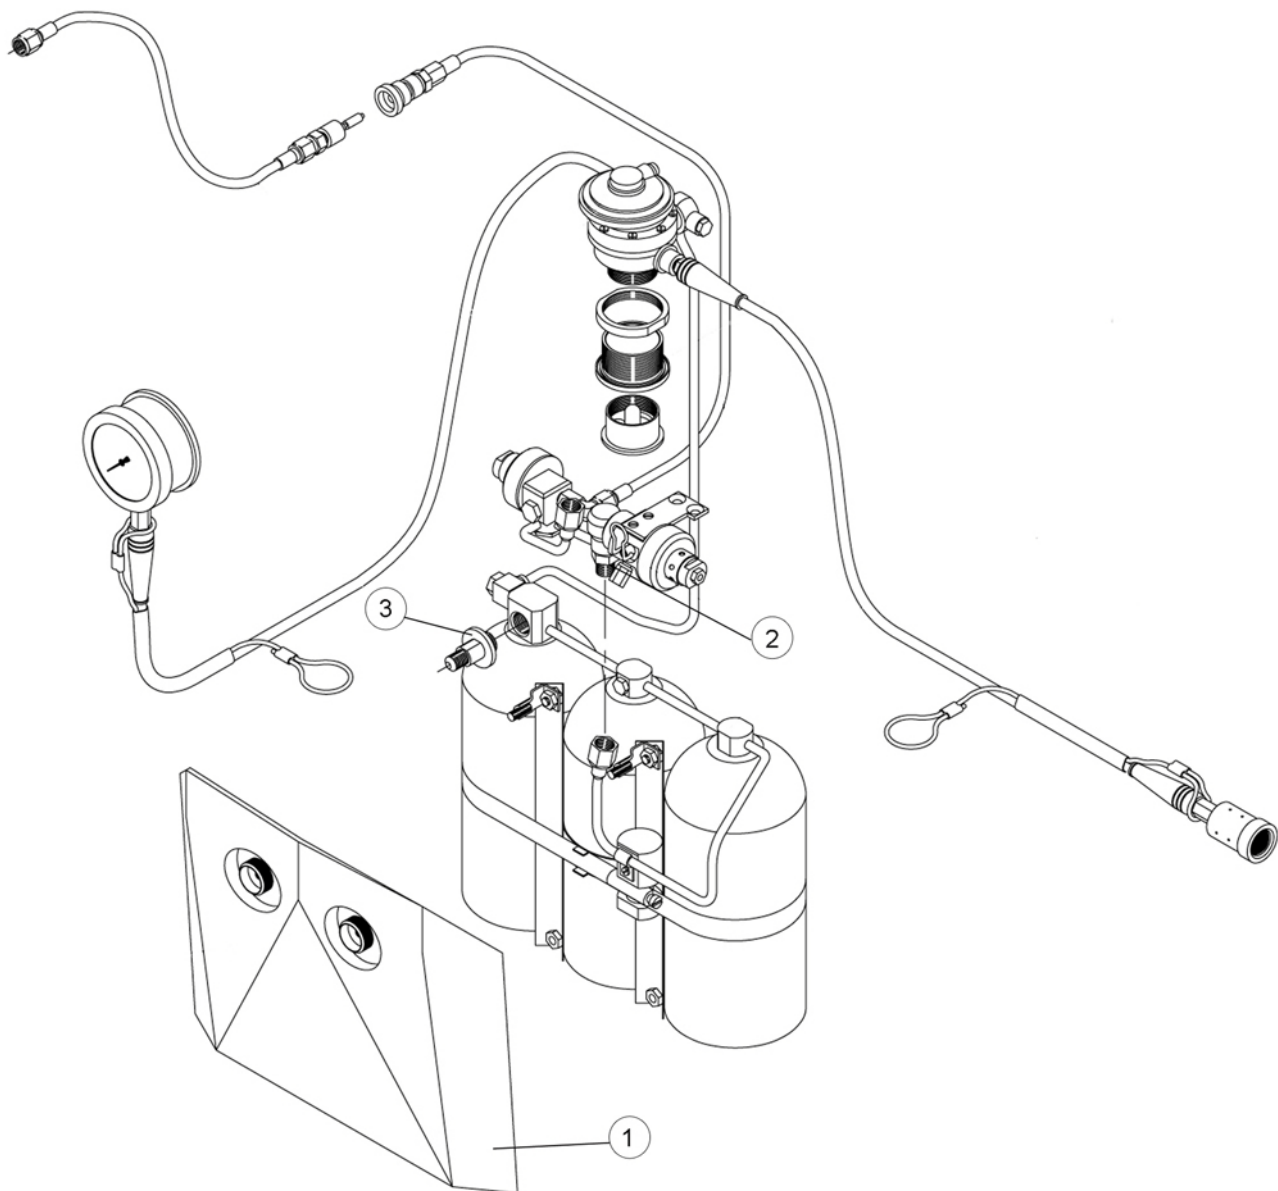

Fig 3.1 Gas bottle charging
1. Remove the SLS System backpack cover (Fig 3.1, Item 1).
2. Ensure that the spool valve (Fig 3.1, Item 2) is set in the stand-by position and the actuation cable bullet is visible (if the actuation cable is installed).
3. Identify the charging fitting (Fig 3.1, Item 3) on the left hand bottle end fitting (the fitting's thread is No.4JIC).
5. Connect securely to a gas supply, the mixture corresponding to Fig 3.1.